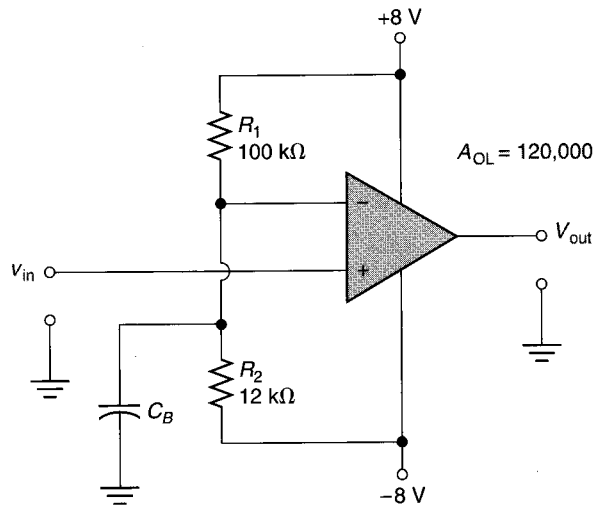

FIGURE 16.37
4. Determine the value of  $V_{\text{ref}}$  for the comparator in Figure 16.37.